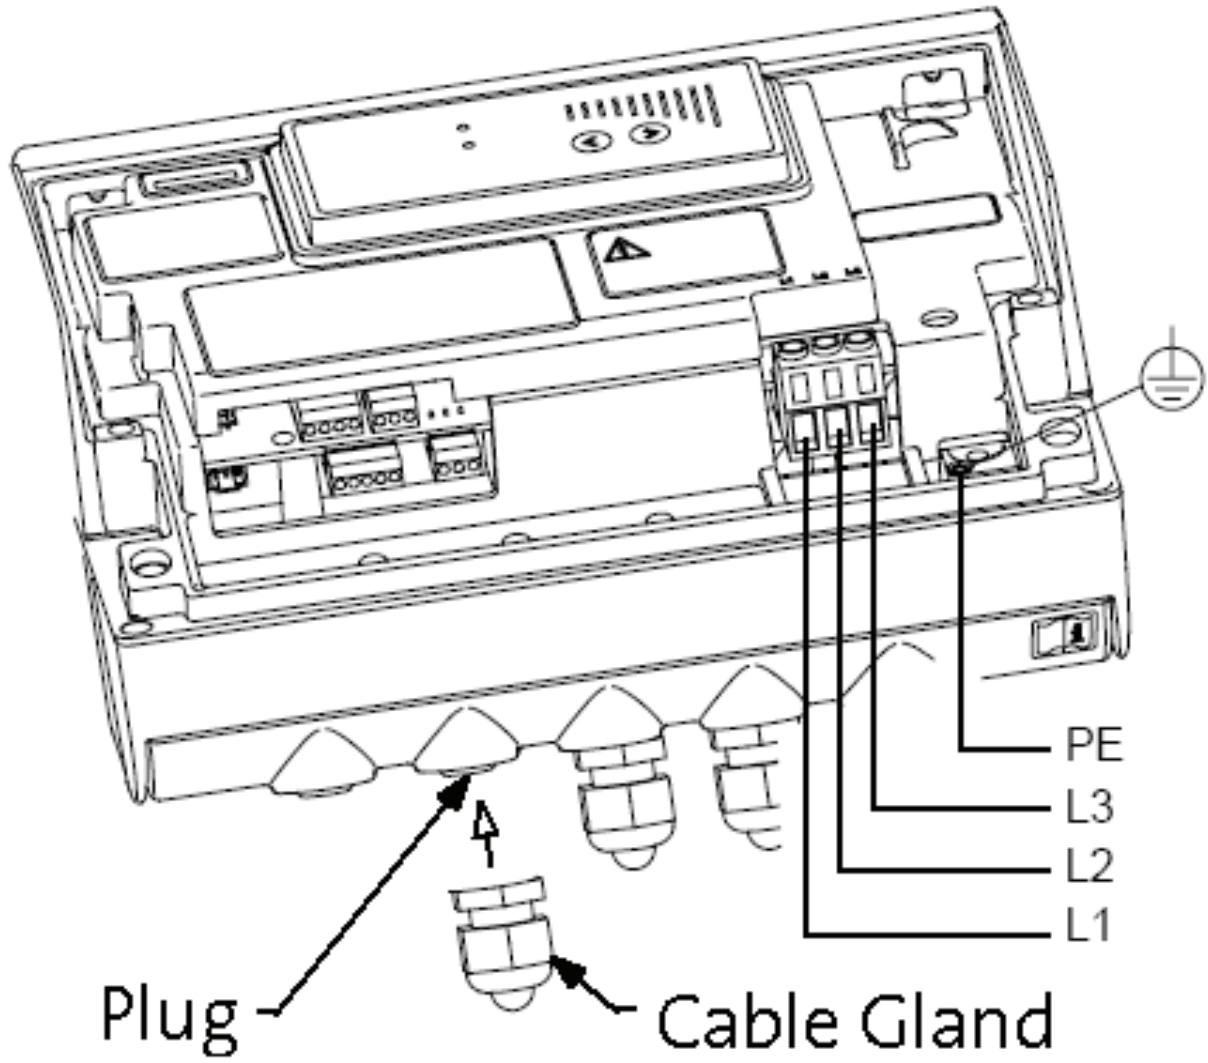

Fig. 1
- A. Remove the plug from each MLE casing with a flat head screw driver. (See Fig. 1)
- I. Tighten the new cable gland cap to secure the cable. (See Fig. 1)